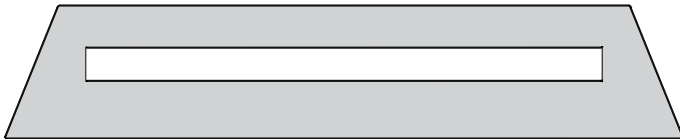

Figure 57
8. Apply the accessory decorative glass or rocks to the shaded area only. **See Figure 57.** Use enough to cover the area of the fireplace, but do not allow the media to reach higher than the flange surrounding the burner. Never place decorative media inside the flange surrounding the burner itself. This fireplace can use crushed glass, glass droplets (1/2 inch) or glass drops (1 inch), or ceramic fiber rocks and pebbles. Mix colors and glass types, but do not exceed the recommended amount of decorative media.